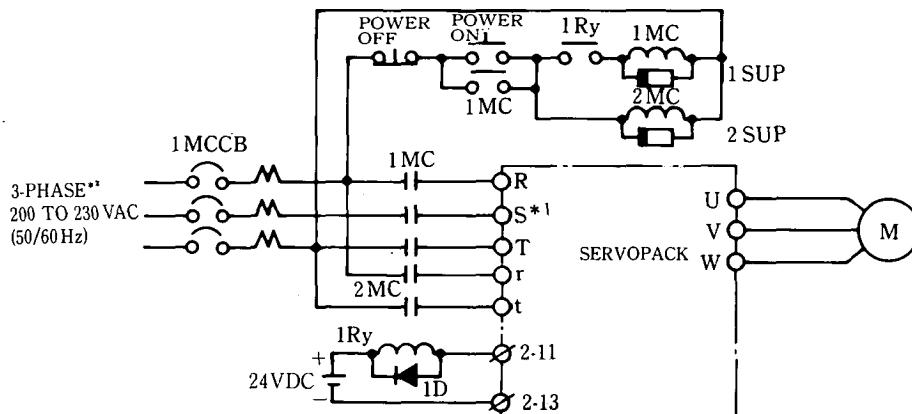
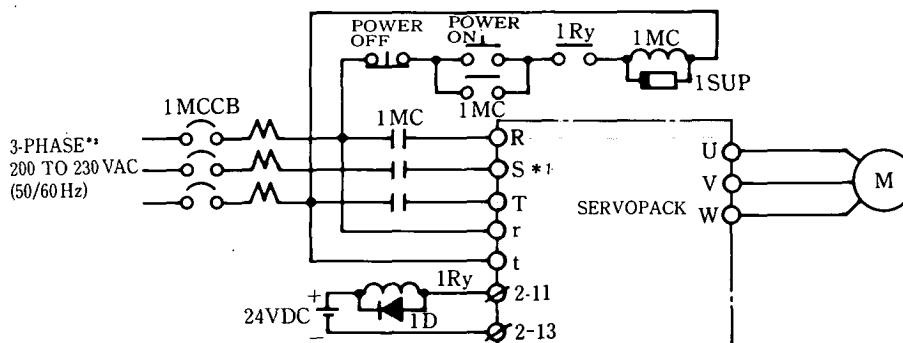

Fig. 5.17 Typical Connection when Both Control Power Supply and Main Power Supply are Turned ON/OFF Simultaneously
Fig. 5.18 Typical Connection when only Main Circuit Power Supply is Turned ON/OFF
For main circuit power supply (R, S, T) *¹ or control power supply (r, t) to turn on in sequence, they are turned on simultaneously or the control power supply is turned on before the main circuit power supply. (see Figs.5.17 and 5.18.)
For power supply to turn off in sequence, both power supplies are turned off simultaneously (including momentary power loss) (Fig. 5.17) or the main circuit power supply is turned off before the control power supply (Fig. 5.18).
(Precautions for Figs. 5.17 and 5.18)
- In power supply ON-OFF sequence in Fig. 5.17, it takes approx. 1 second at maximum to establish a normal signal in the control circuit (1Ry is turned on).
However, in the sequence in Fig. 5.18, it is not necessary since the control power supply is always turned on.